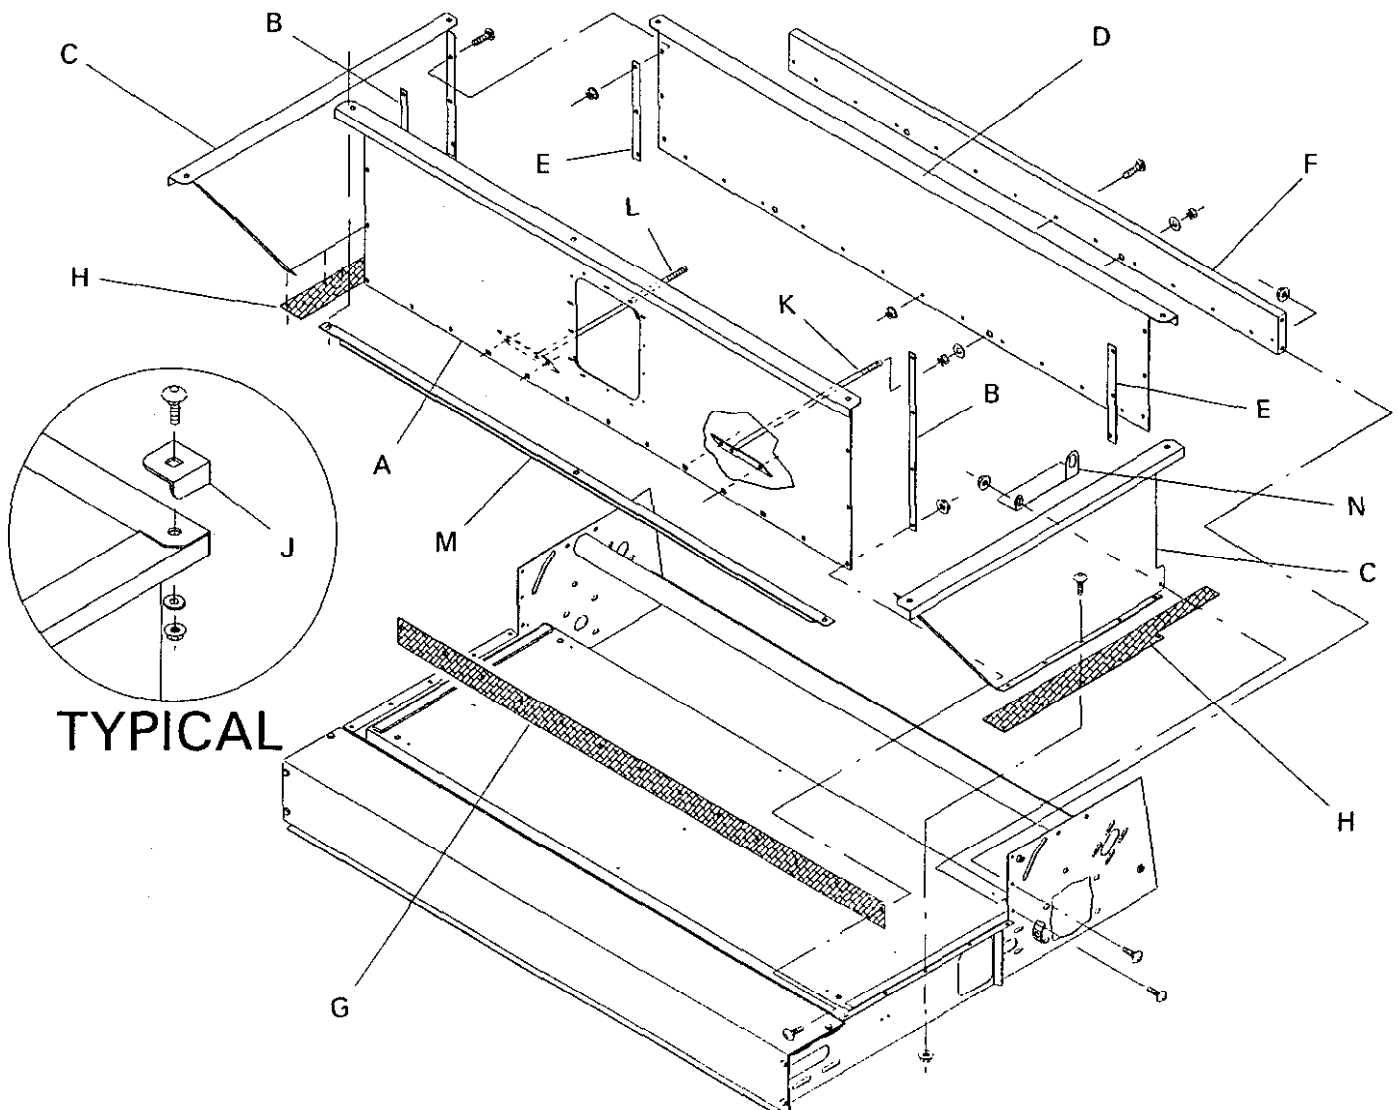
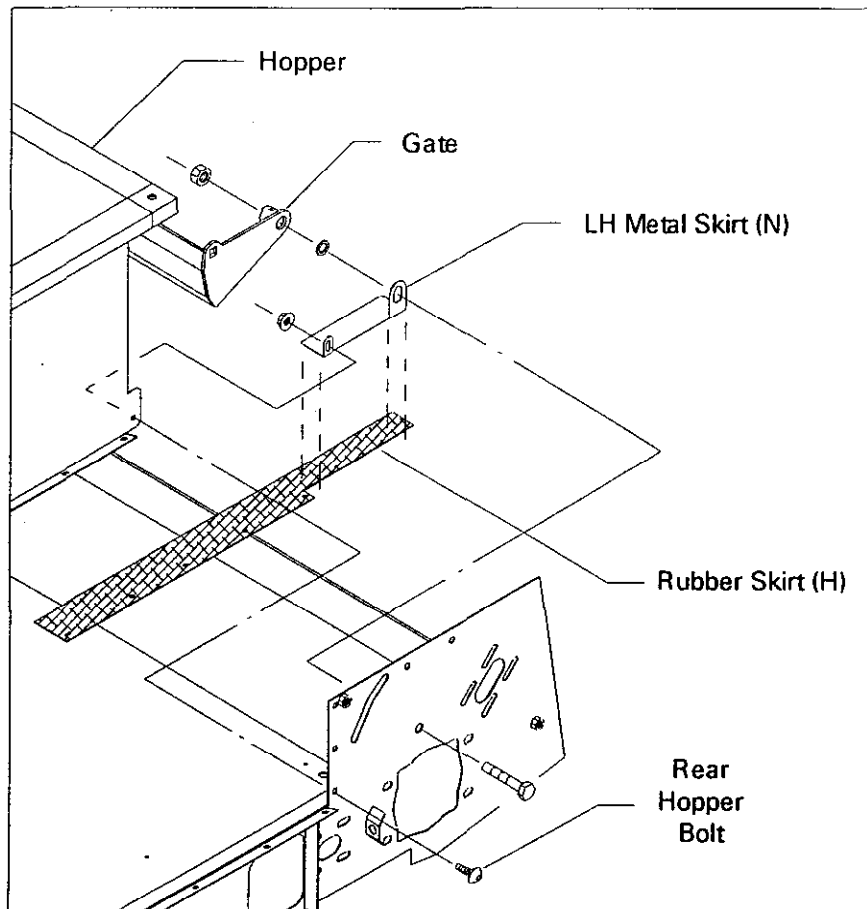

Figure 2
Figure 3
ASSEMBLE HOPPER (Fig. 2 & 3)
4. Attach both L.H. and R.H. Support Rods (K & L) through the hopper as shown in Fig. 2.
5. Attach the Front Rubber Skirt (G) to the Front (A) with Hopper Strips (B) to the sides and bottom of topdresser using 1/4" x 5/8" carriage bolts and whiz nuts. Secure hardware.
NOTE: Only the LH metal skirt is shown in Fig. 2 and Fig. 3.
7. Attach the Hopper Brace (M) under the front channel of the Hopper Front as shown in Fig. 2. Secure center holes with 1/4" x 5/8" carriage bolts.
8. Attach (4) Corner Brackets (J) to the corners of the hopper including the front Hopper Brace .